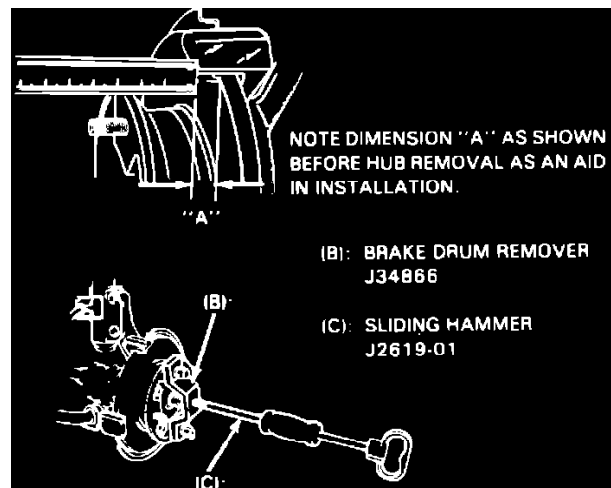

**Fig. 8 Installing spacer on wheel hub**
12. Install spacer on hub with bevel side first, **Fig. 8**.